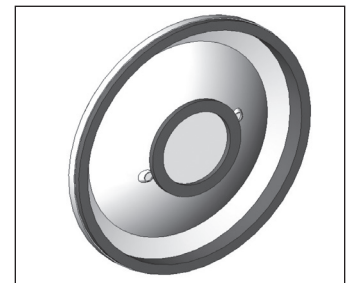

Figure 2
2. Take the escutcheon plate from trim pack and position the gaskets on the back side of escutcheon (see **Figure 2**).